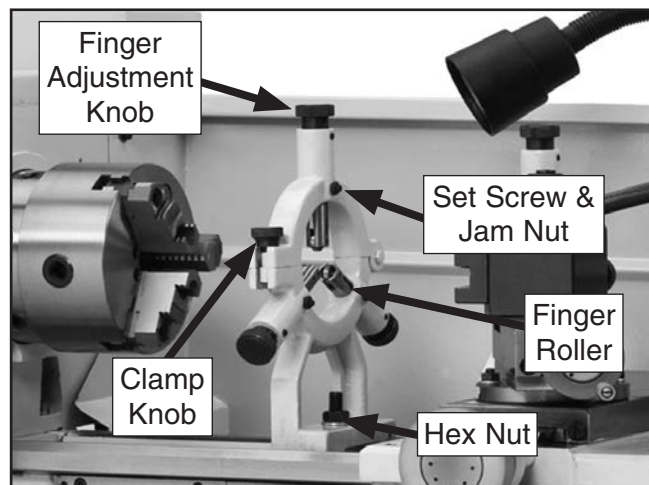

Figure 49. Steady rest components.
Familiarize yourself with the steady rest components shown in **Figure 49** to better understand the controls.
3. Position steady rest with base clamp where required to properly support workpiece, then tighten hex nut shown in **Figure 49** to secure it in place.